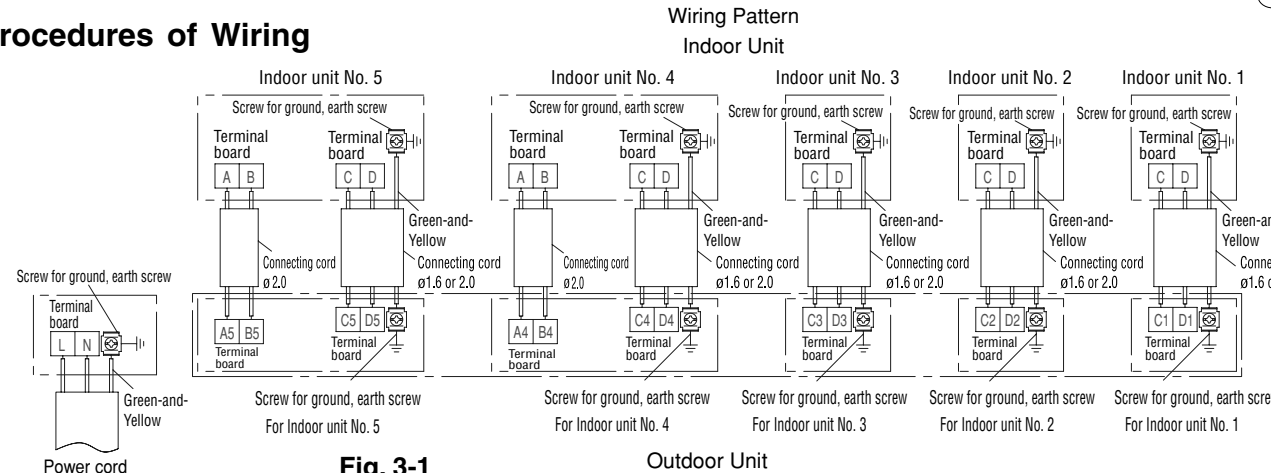

Fig. 3-1
- (1) Those terminal blocks for connecting the indoor and outdoor cables should be installed starting from the right hand side, in a sequence of 1, 2, 3, 4, 5; in accordance with the units' numbering system, as illustrated in the diagram. The left hand-most terminal block is for the power supply connection use.
- (2) The A B terminals in the terminal blocks linked to unit no. 4 and unit no. 5 are for AC 220V ~ 240V power supply connection use. As for those indoor units with inbuilt high voltage motors that are electrically operated; the signal line (CD Line) should never be connected. Any inadvertent connection of the signal lines will damage the indoor unit's circuit board. The four ABCD terminals are designed for those indoor units with inbuilt high voltage motors. The installation instruction manuals that are packed together with the indoor units should be consulted for detailed instructions. A tape that is affixed to the AB terminals to mistake proof wrong connections should be removed before performing the connection. Only 2 terminals (CD) are being provided for normal indoor units. As for those indoor units that have no inbuilt high voltage motors installed, when connecting no. 4 or no. 5, use only the CD terminals and do not use AB terminals.
- (3) Connect the electrical wiring between the Indoor and Outdoor unit, as shown in Fig. 3-1. Never connect the wiring by mistake.
- (4) In case of wrong connection, the unit does not operate properly and it may cause malfunction.
- (5) The connecting cord must be fixed by the band which is located near the terminal board.